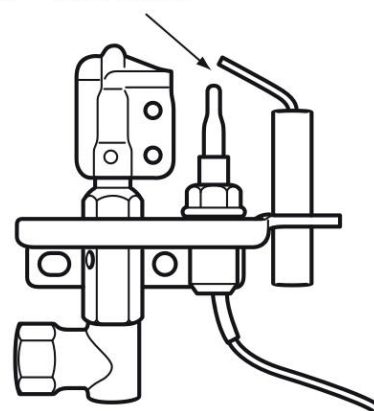

Figure 5. Pilot spark gap
5.3.8. Check ignition spark: Before attempting to install, it is worth checking that the piezo electric spark ignition system operates satisfactorily. To initiate the spark, temporarily refit the control knob to the spindle. Depress the knob and while keeping it depressed, turn to the 1/IGN position. Two separate sparks should track from the electrode pin to the thermocouple tip. If there are no sparks or incorrect tracking, check the spark gap between the electrode wire and thermocouple tip (See figure 5). If the spark gap is correct, check the ignition wiring.